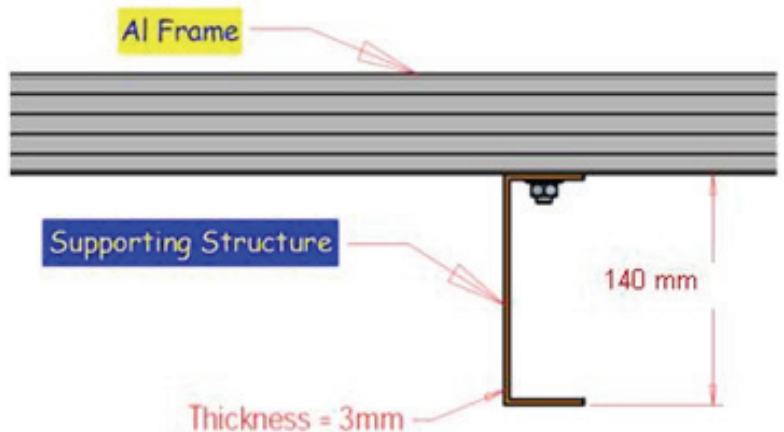

Fig 1.5
- Here the standoff method or the rack method is recommended. The recommended stand-off height is 140 mm as shown in Figure 1.5.